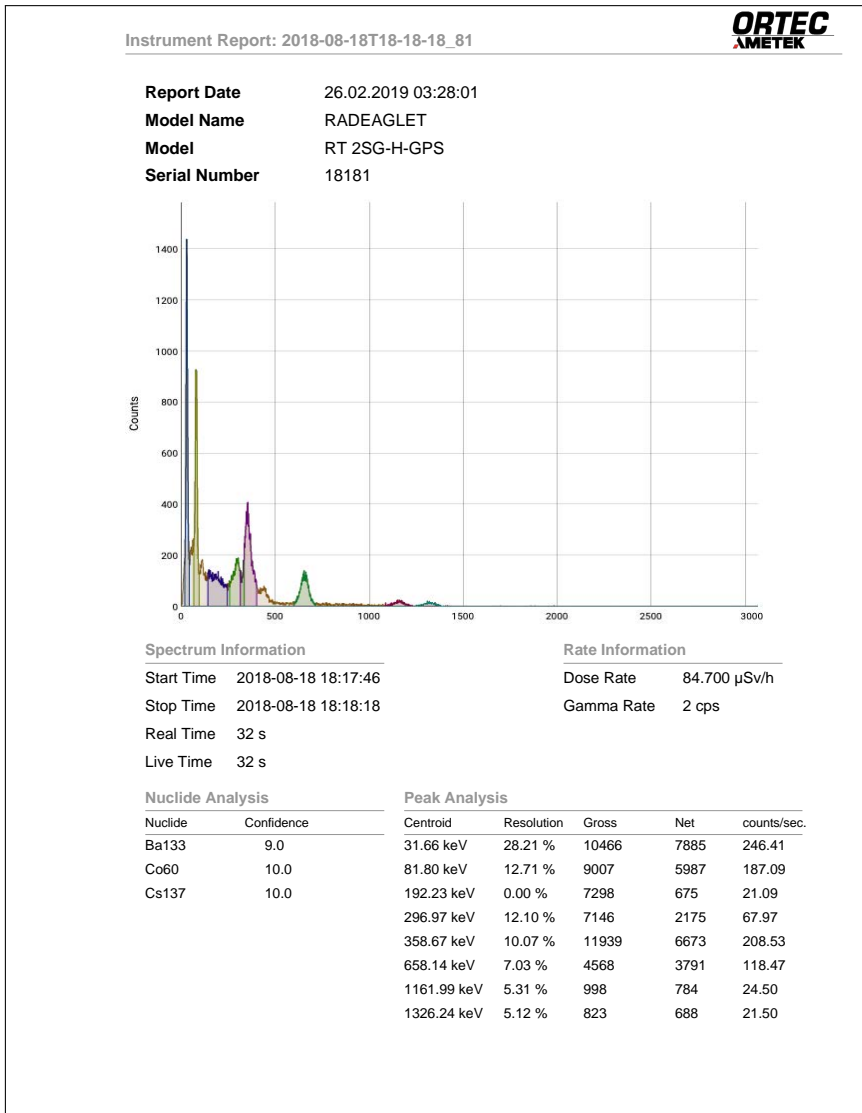

Figure 115: PDF report of a spectrum
1. Click . Depending on your Web browser configuration, the pdf document will be opened in the browser or downloaded into the usual location for downloads. An example is shown in Fig. 115, p. 112.